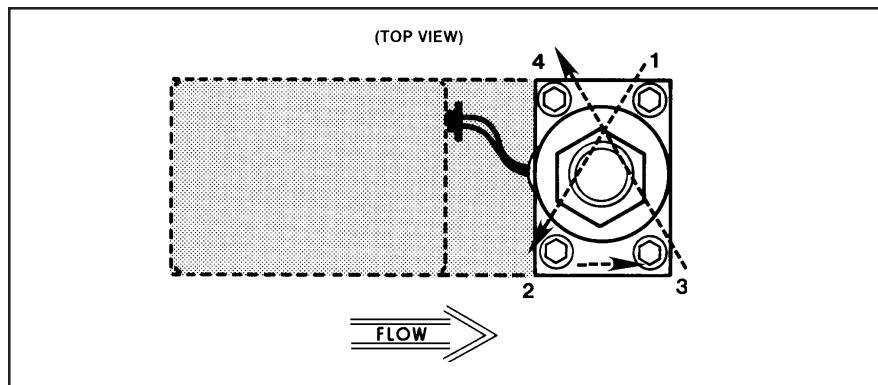

Figure 4-1 Torque Sequence for the Valve Retainer Plate
4. Press the lubricated sensor O-rings (17) into the flow controller body (14). Install the sensor assembly and secure with two screws (18) and washers (19) tightened to 15 in/lbs.
5. Install the orifice (12) and its O-ring (13), using a 3/8 nut driver. Insure that the orifice is fully seated but do not overtighten.
6. Insert the valve preload spacers (10), if used, into the valve cavity in the flow controller body (14). Use care to preserve the correct order.
7. Install the valve plunger assembly (7, 8, 9 and 11) on the preload spacers (10). Install air gap spacers (10), if used, on top of the valve springs.
8. Install the valve stem assembly (6), secure with the valve retaining plate (4) and four hex socket screws (3). When installing the screws they should first make light contact with the plate, which should be checked to insure that it makes full contact around the stem assembly. Torque the screws securing the valve retaining plate in a diagonal pattern (Refer to Figure 4-1) to 15 in/lbs.
9. Install the coil assembly (2) over the valve stem assembly (6) and secure with jam nut (1).
10. Install the printed circuit (PC) board (15), secure with the bracket (24) and two screws. Plug the connector from the sensor assembly onto the PC Board. The flow arrow on the connector should be pointing toward the valve assembly.
11. Install the electronics cover (23) on the controller, secure with three screws (20). Plug the connector from the valve coil into the PC Board through the hole in electronics cover.